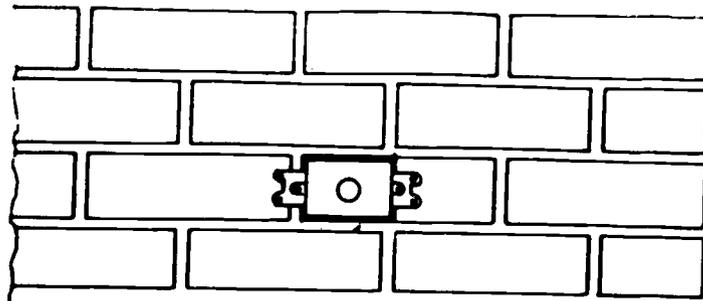

FIGURE 4
- L. Secure box with narrow wood wedges (Figure 4)
- I. Mark holes in plaster ears for anchors (Figure 4)